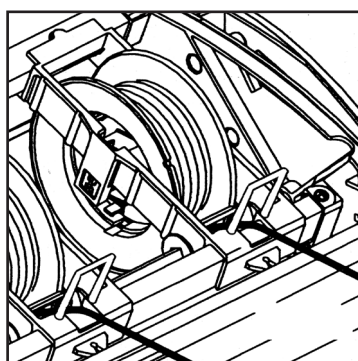

Fig 5
- Replace the Spool and Spool Carrier assembly. Position the rear of the Carrier onto the Rear Tube and snap the front down. The reverse of removing it. See **Fig 5 and 6**.